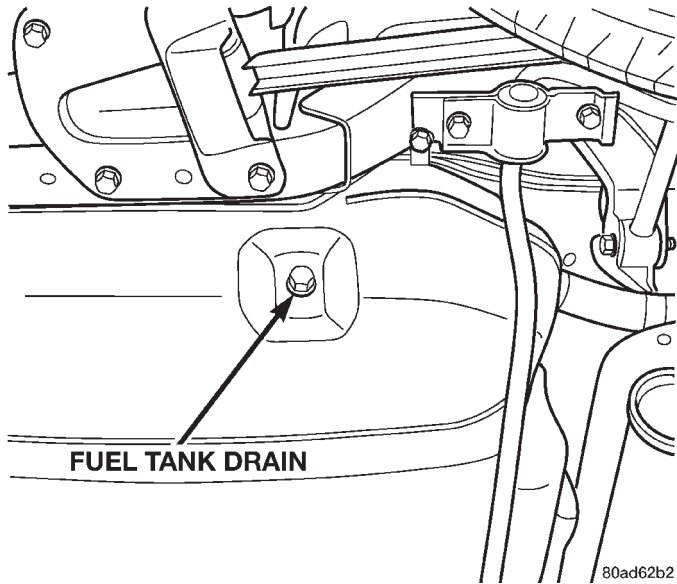

Fig. 11 Fuel Tank Drain
(4) Drain fuel tank, refer to Draining Fuel Tank in the Fuel Delivery section (Fig. 11).